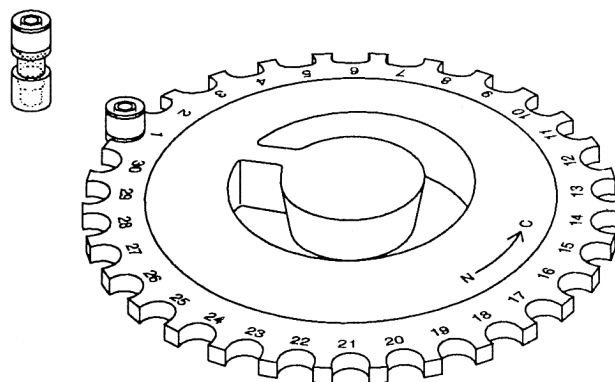

Figure 13. Placing a wheel test fixture in position 1 (one) on the wheel
2. Place a wheel test fixture (Figure 13) in position 1 (one) on the amino acid column wheel.